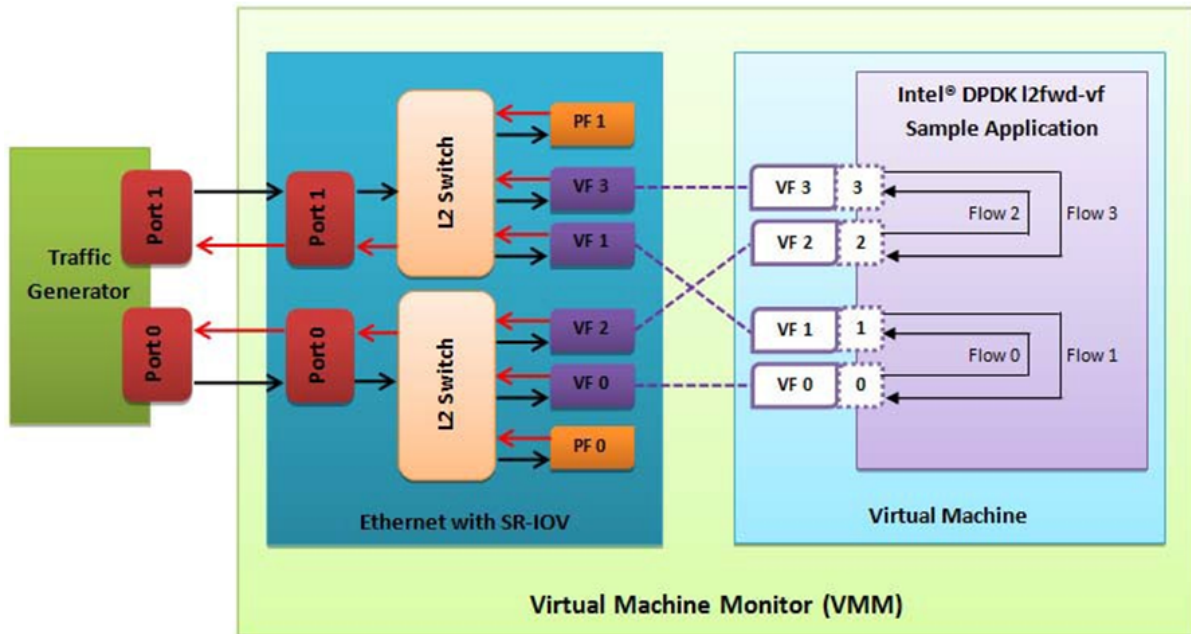

Fig. 24.2: Performance Benchmark Setup
- The Virtual Machine Monitor (see Fig. 24.2) is equivalent to a Host OS with KVM installed as described in the instructions.